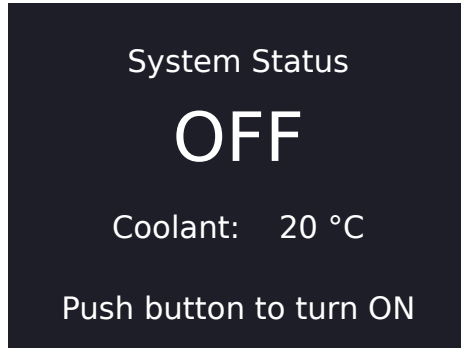

Fig. 20 - Standby screen
2. Press the **MODE** button a second time, and the Cooler enters standby mode (Fig. 20).